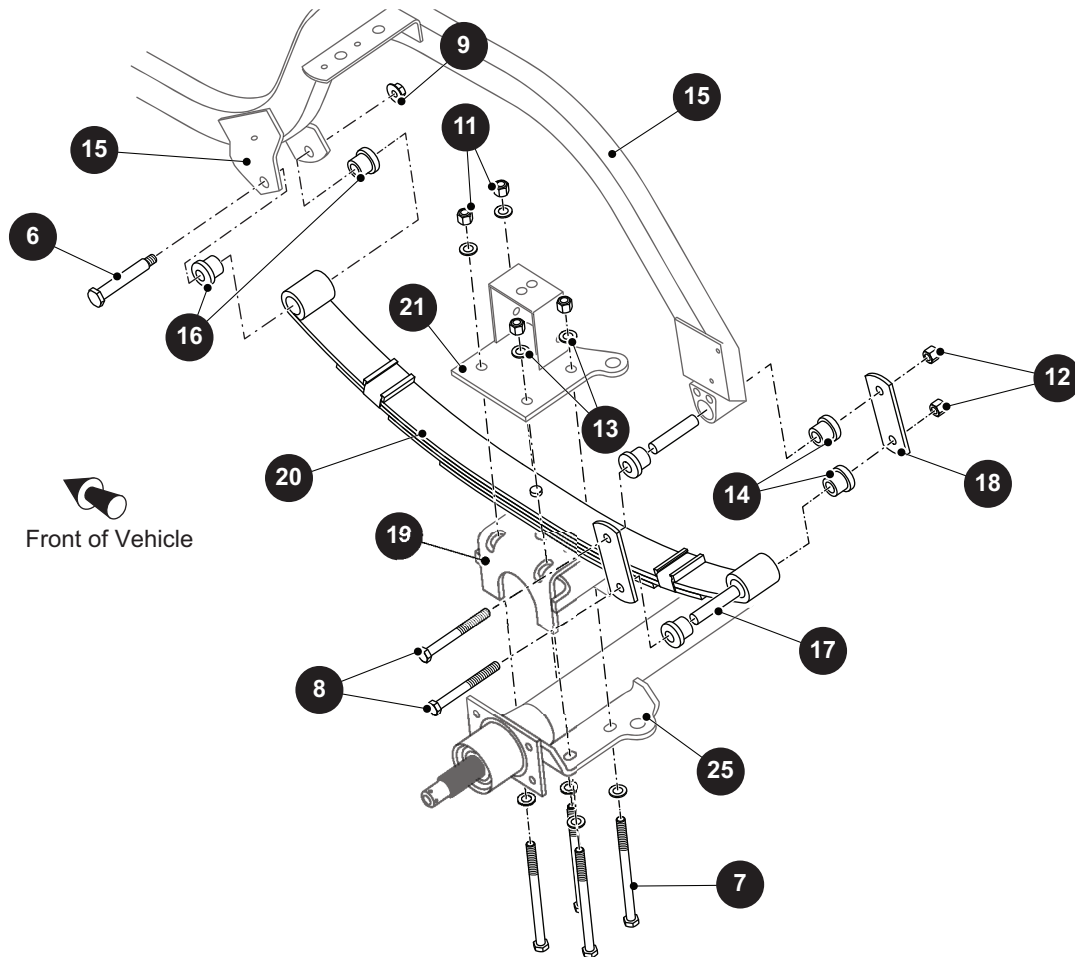

Fig. 2 Leaf Springs
3. Remove the lock nuts (11) and washers (13) from the bolts (7) and remove the bolts from the lower leaf spring mounting brackets (25) (Ref Fig. 2).
4. Remove the upper leaf spring mounting bracket (21).
5. Place a floor jack under the rear frame and lift the vehicle enough to relieve pressure from the leaf springs on the lift bracket (19) and rear axle.
6. Remove the bolts (8) and lock nuts from the lower shackles (18) at the rear of the leaf spring.
7. Remove the bushings (14) and spacers (17).
8. Remove the lock nut (9), bolt (6), and bushings (16) from the forward leaf spring mounting bracket (15) on the frame.
9. The leaf spring (20) can now be removed from the vehicle.
10. Remove the lock nut (12), bolt (8), shackles (18), bushings (14), and spacer (17) from the rear mounting bracket on the frame.
2. Make sure that the lift bracket (19) is correctly positioned on top of the axle (Ref Fig. 2).
3. Install the large bushings (16) in the forward end of the leaf spring and place the leaf spring in the forward mounting bracket (15).
4. Install the bolt (6) and new lock nut (9) to secure the forward end of the leaf spring (20) in the bracket.
5. Install one pair of the smaller flanged bushings (14) and the spacer (17) in the rear frame mounting holes.
6. Position the shackles (18) over the bushings and install the bolt (8) and nut (12) in the upper bolt hole.
7. Install the remaining pair of smaller flanged bushings (14) and the spacer (17) in the rear of the leaf spring.
8. Position the leaf spring (20) into the shackles and install the bolt (8) and lock nut (12).
9. Align the pin on the leaf spring with the holes in the lift bracket (19) and upper leaf spring mounting plate (21).
10. Install the bolts (7) and washers (13) then secure in place with new lock nuts (11).